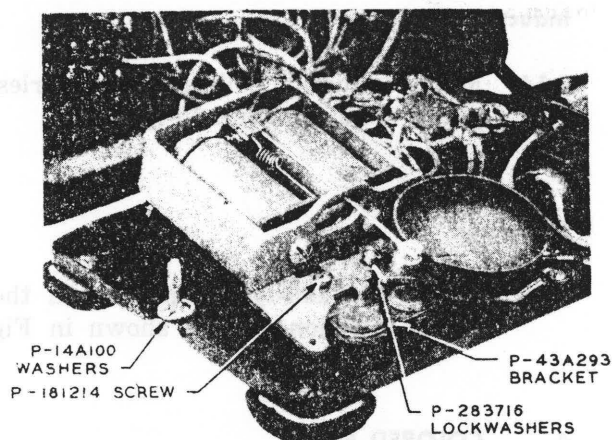

Fig. 14 — Ringer Assembly
3.07 On desk sets the terminals of the 6-type dial may obstruct the ringer clapper rod when the ringer is mounted on a triangular mounting bracket. To provide necessary clearance, place two captive mounting washers on each of the mounting screws which hold the upper housing to the baseplate of telephone set. (See Fig. 14.)
3.09 Place ringer as shown in Fig. 14 when using the P-43A293 bracket. Place ringer as shown in Fig. 16 when using the P-298695 bracket. The left ringer gong is omitted from Fig. 16 for clarity.